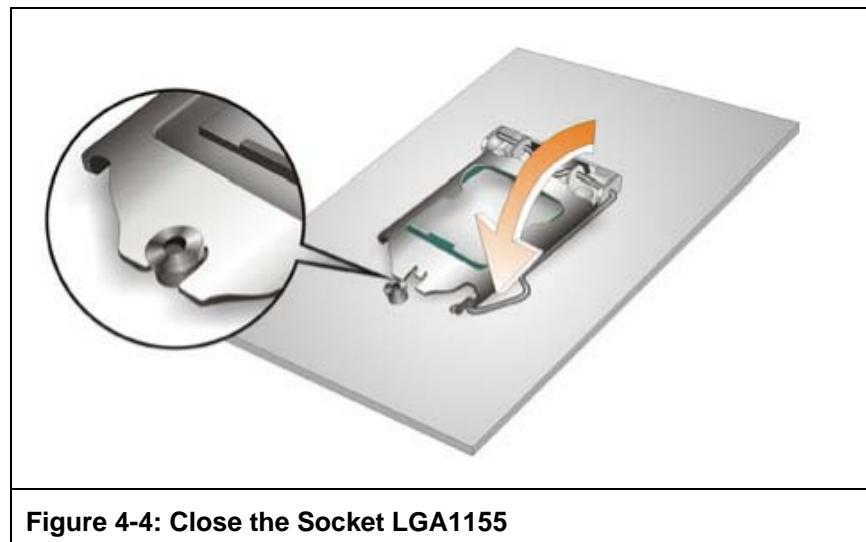

Figure 4-4: Close the Socket LGA1155
Step 8: Close the CPU socket. Close the load plate and pull the load back a little to have the load plate be able to secure to the knob. Engage the load lever by pushing it back to its original position. See **Figure 4-4**. There will be some resistance, but will not require extreme pressure.